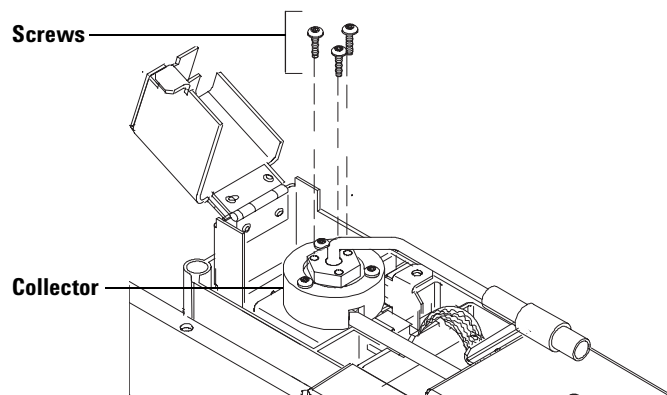

Figure 6 Mounting the bead assembly
- 5 Mount the new bead assembly on the NPD collector as shown in Figure 6. Be careful not to bump the bead on the sides of the collector. Use the three new Torx T-10 screws supplied. Tighten the first screw only finger-tight; tighten the remaining two screws normally and then completely tighten the first screw.